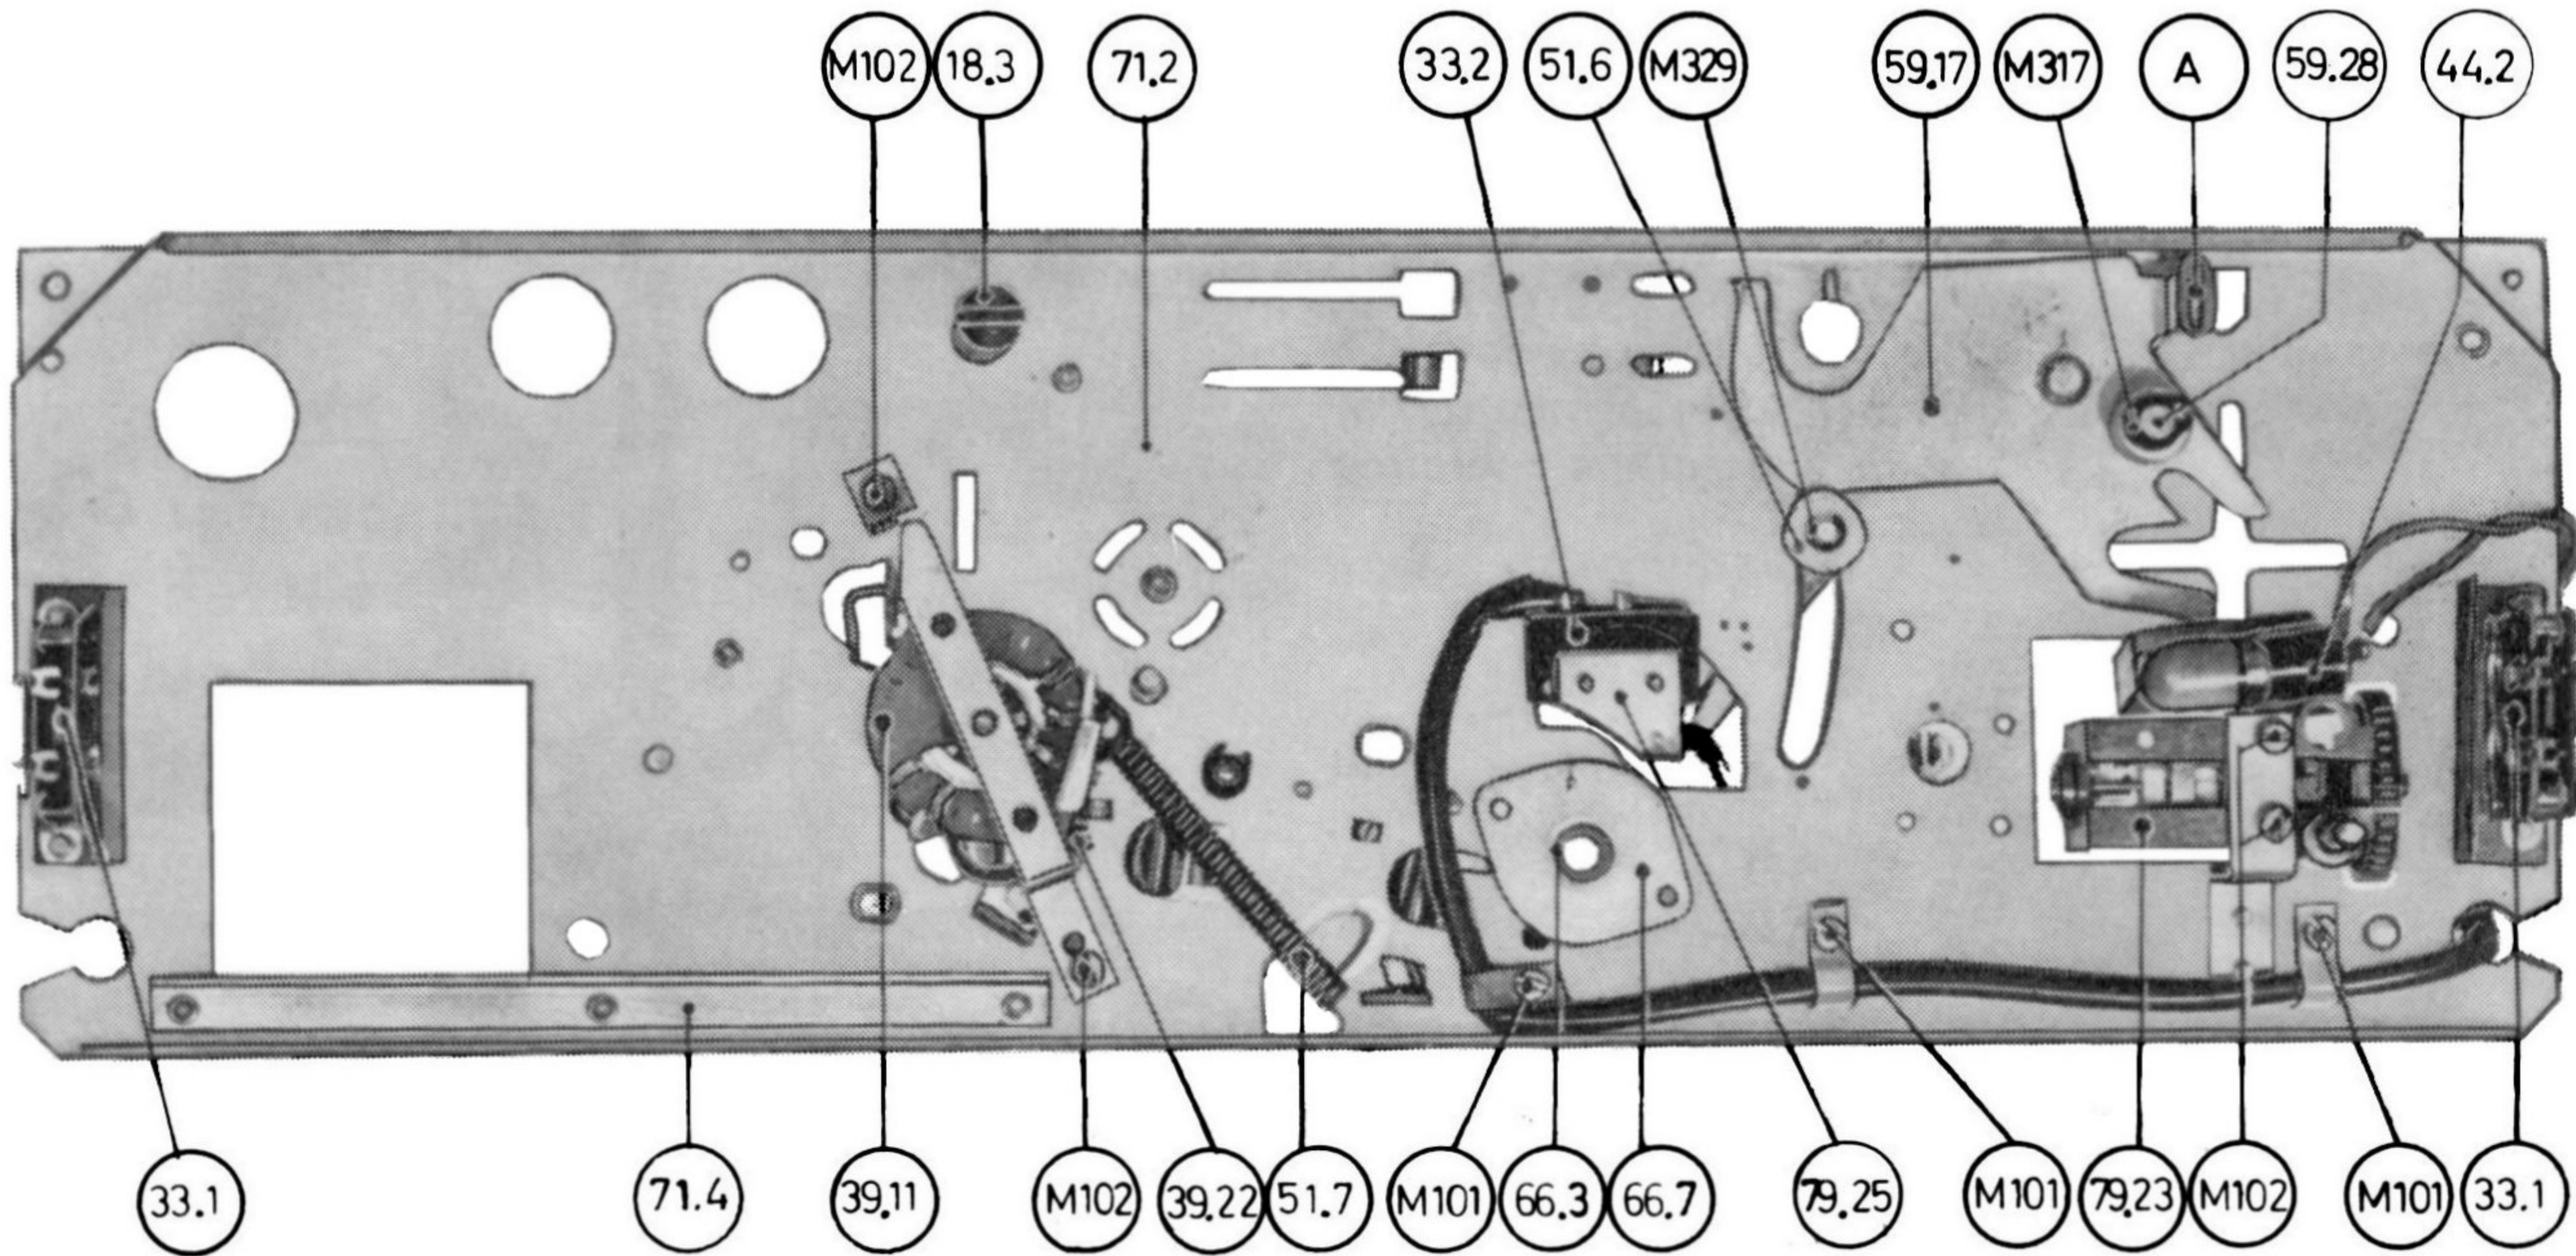
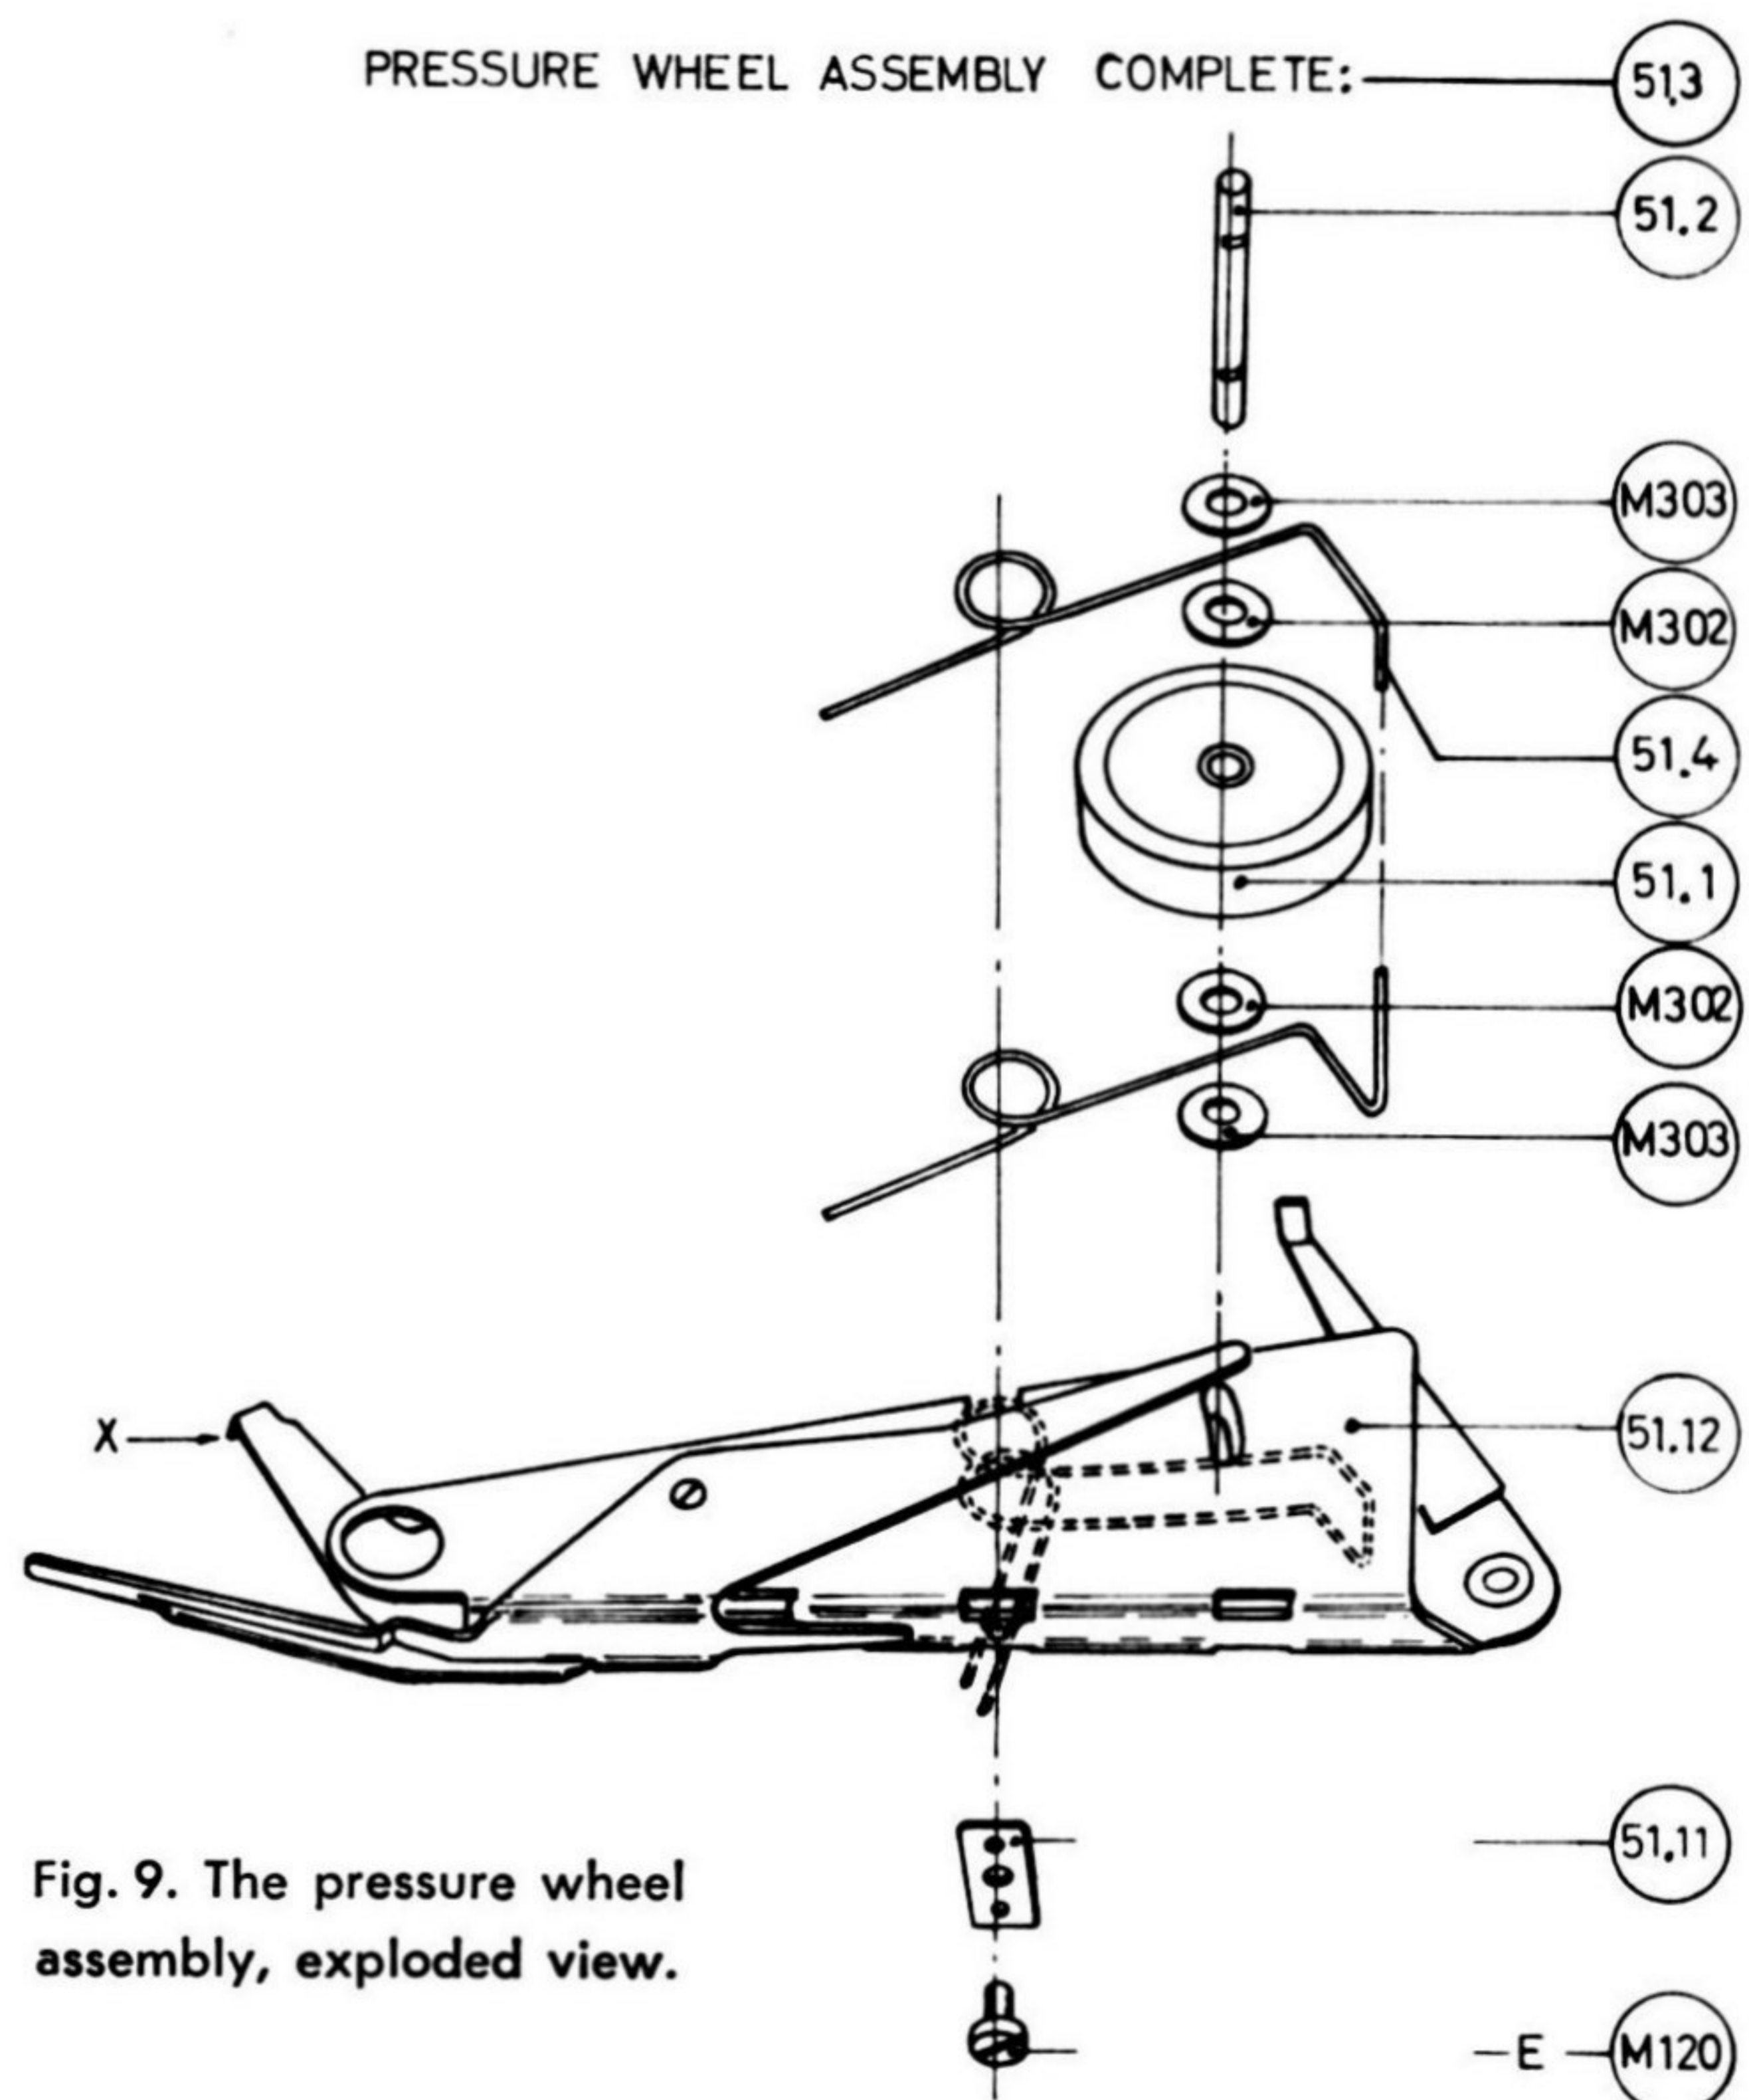

Fig. 8. The upper mounting plate, bottom view.
Fig. 9. The pressure wheel assembly, exploded view.
The eccentric segment (59.17) is located underneath the upper mounting plate (71.2), and is connected to the operating lever (54.1). Ref. fig. 8 and 9. The eccentric segment (59.17) moves the pressure wheel assembly (51.3) with the pressure wheel (51.1)
Adjust the return motion of the pressure wheel assembly (51.3) by bending the lug (A) ref. fig. 8 to
The pressure wheel assembly (51.3) is guided into operating position by the eccentric segment (59.17) when the operating lever (54.1) is moved to normal forward drive. The pressure wheel (51.1) is mounted under balanced spring tension, with the pressure wheel shaft (51.2) running through two oblong slots in the pressure wheel bracket (51.12). This mounting gives the pressure wheel (51.1) approx. 6 mm (1/4") horizontal springloaded play, on a line perpendicular to the front of the upper mounting plate (71.2). Ref. fig. 9.
The balanced spring tension of the pressure wheel (51.1) is adjusted to obtain uniform pressure of the pressure wheel against the capstan. Loosen screw E, and turn the spring equalization latch (51.11) clockwise or counter clockwise until the tape runs smoothly by the pressure wheel (51.1) in normal forward drive. Make sure that no air-pockets are formed between the tape and the pressure wheel (51.1) and that the tape is completely covered by the rubber surface of the pressure wheel. Ref. fig. 9 and 10.
The muting switch (39.11) is located between the upper and the lower mounting plates (71.2, 71.1). Ref. fig. 8. The muting switch (39.11) shortcircuits both record playback heads in all positions of the operating lever, except normal forward drive. The switch is introduced to prevent the heads from being magnetized by the transient electrical shocks which will appear when the function selector switch is operated. The pressure wheel bracket (51.12) activates the muting switch (39.11) by the lug X. Ref. fig. 9. The lug enters through an oblong slot in the upper mounting plate (71.2) in front of the erase head.